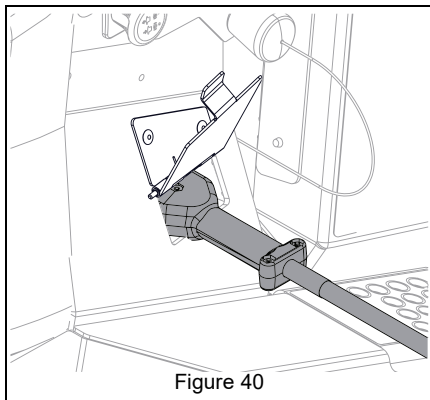

Figure 40
5. Connect charger connector to charging port on the machine. See Figure 40.